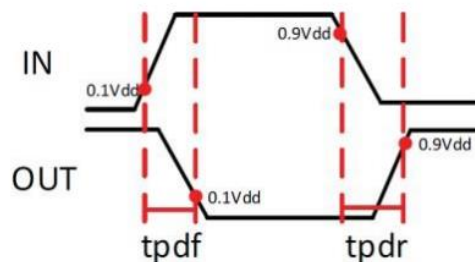

Fig. 2
- (b) Please design the size and stage of the inverter chain to reach tpdf and tpdr < 1ns. (tpdf and tpdr definition: Fig 2.) (10%)
2. Please design a 3-to-8 decoder with output loading 300fF at each output node (as shown in Fig. 2) and try to add an inverter buffer to **minimize the delay from input to output of the decoder**. VDD = 1.8V, and the size of the first inverter has been assigned. (the rising time and falling time of input A[0], $\bar{A}[0]$ is 0.01ns & input frequency = 20MHz, the rising time and falling time of input A[1], $\bar{A}[1]$ is 0.01ns & input frequency = 40MHz, the rising time and falling time of input A[2], $\bar{A}[2]$ is 0.01ns & input frequency = 80MHz) (60%)